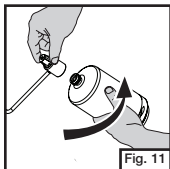

Fig. 11
- Remove plastic cap from top of propane bottle and screw propane bottle into regulator hand tight. (Fig. 11)